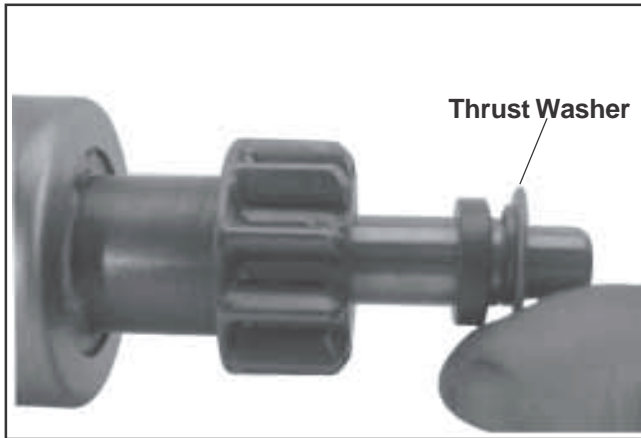

Figure 7-34. Installing Thrust Washer.
3. Install the offset thrust (stop) washer so the smaller offset of the washer faces the retainer/collar. See Figure 7-34.